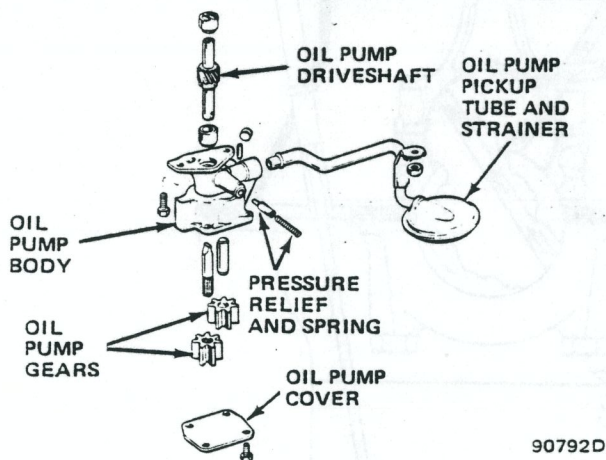

Fig. 1B-29 Oil Pump—Exploded View
- (1) Remove cover attaching screws, cover, idler gear and drive gear and shaft (fig. 1B-29).
- (2) Remove pressure regulator valve and valve parts.